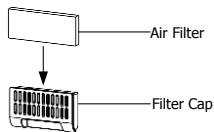

Fig. 11-1
(1) Attach the air filter to the filter cap, as shown in Fig. 11-1.